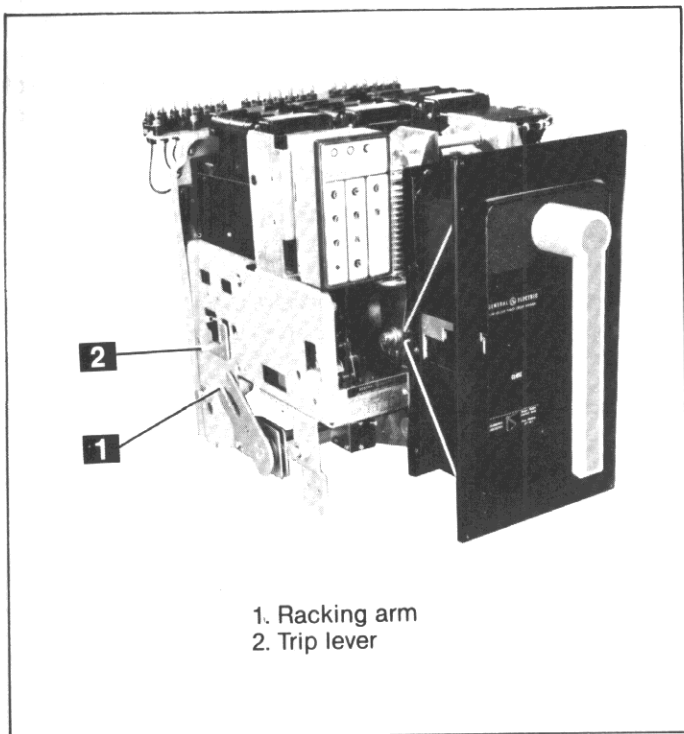

Fig. 3-10. AKR-30 circuit breaker
A breaker should always be OPEN when it is moved into or out of the CONNECTED position. As a safeguard, trip lever (2), Fig. 3-10, will cause the breaker to open before the primary disconnects lose contact if a closed breaker is moved out of the CONNECTED position.